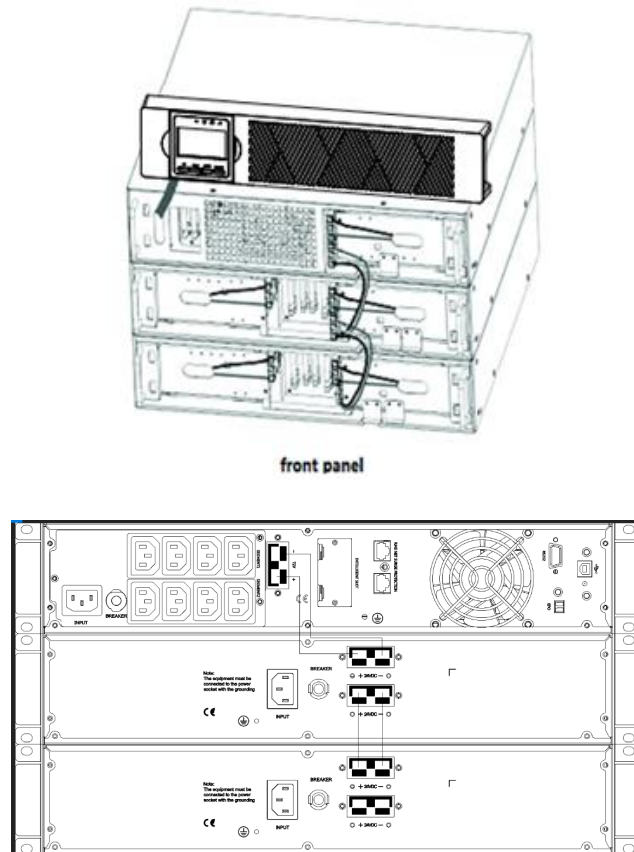

Figure 10: Typical EBP installation
- c) For the bottom (or only) EBP, remove the EBP cable knockout on the top of the EBP front cover. See Figure 10 for the location of the top EBP cable knockout.
- d) If you are installing more than one EBP, for each additional EBP remove the EBP cable knockout on the top and bottom of the EBP front cover. See Figure 10 for the location of the EBP cable knockouts.
- e) Plug the EBP cable(s) into the battery connector(s) as shown in Figure 10. Up to four EBPS may be connected to the UPS. Connect black to black,. Press the connector tightly together to ensure a proper connection.